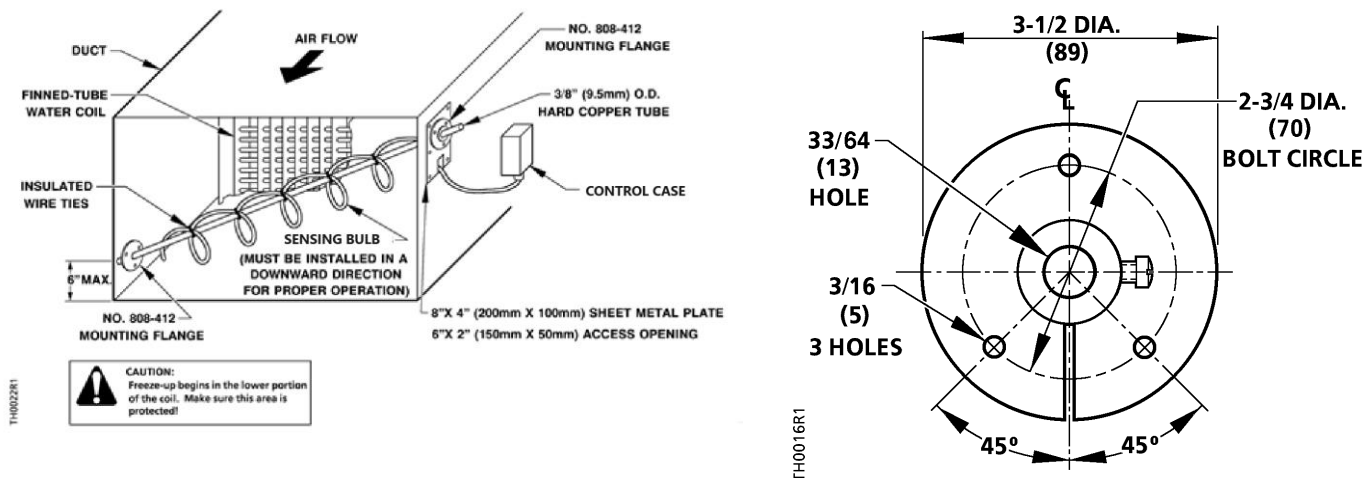

**Figure 1. Typical Mounting in Walk-in Duct.**
(*Figure 1*)
6. Mount the bulb in a horizontal serpentine manner. Attaching the bulb to the strap as shown in the detail in *Figure 1*.